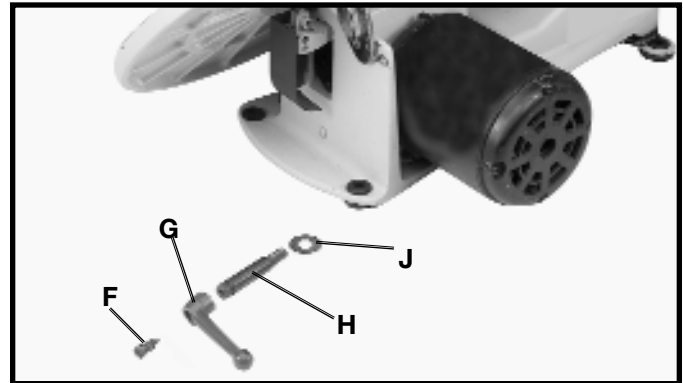

Fig. 8
6. Disassemble the handle by unscrewing and removing screw and spring (F), and handle (G) from locking stud (H), as shown in Fig. 8. Place a M10 flat washer (J) on threaded end of stud (H).